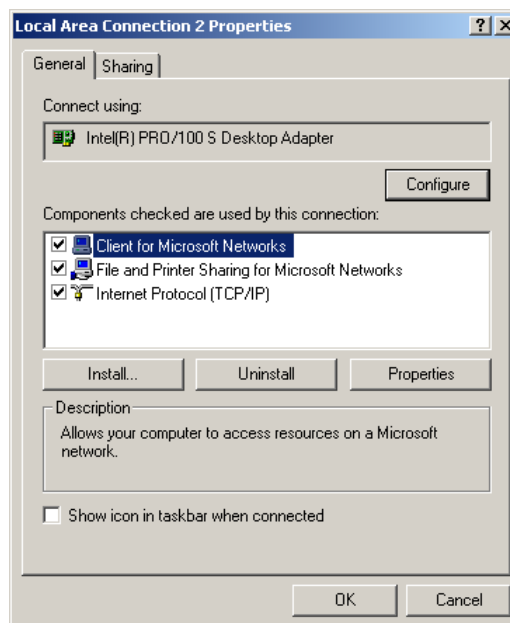

Figure 1.3-2 Local Area Connection 2 Properties dialog box
The "Local Area Connection 2 Properties" dialog box (Figure 1.3-2) will appear.
- (4) Select “Internet Protocol TCP/IP” on the “Local Area Connection 2 Properties” dialog box (Figure 1.3-2). Then, select “Properties.”